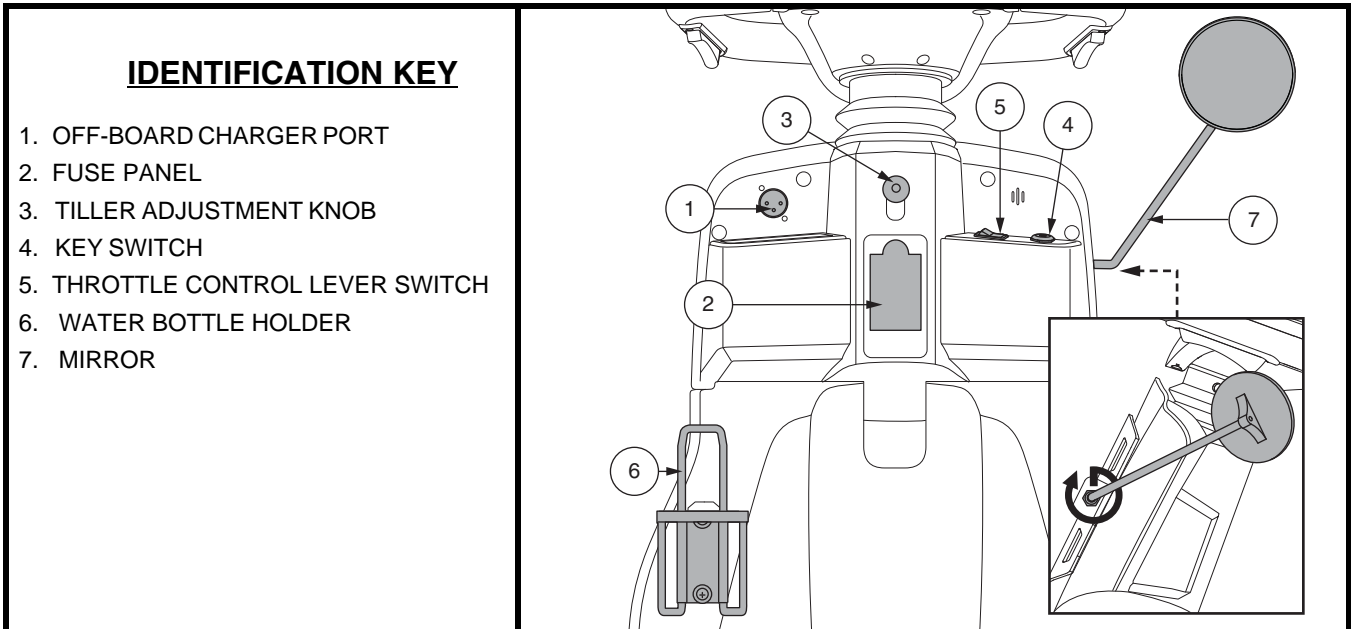

Figure 6. Lower Tiller Components
The off-board charger power cord plugs into this port during battery charging. The off-board charger port will be located on the tiller. See figure 6.
- Insert the key into the key switch and turn it clockwise to power up (turn on) your scooter. See figure 6.
This switch dictates which throttle control lever (left or right) will function. See figure 6.